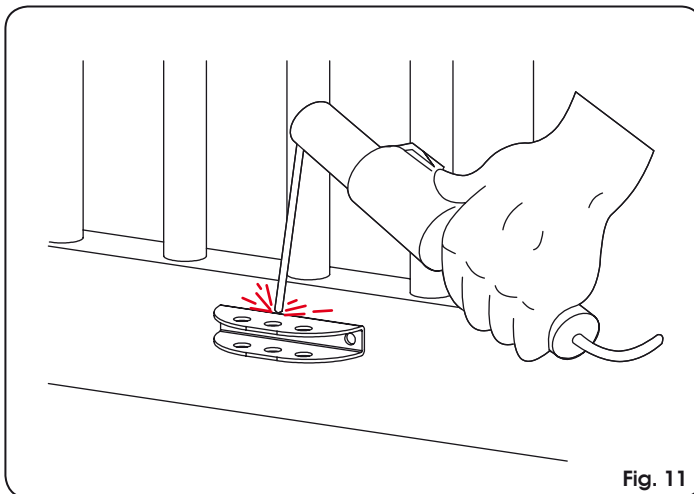
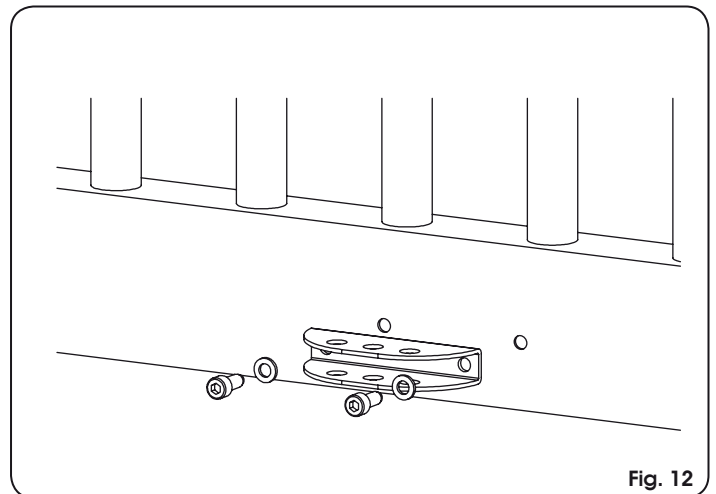

Fig. 11
Fig. 12
*The coupling may be welded directly onto the leaf (Fig. 11) or screwed by using the threaded inserts (Fig. 12).*